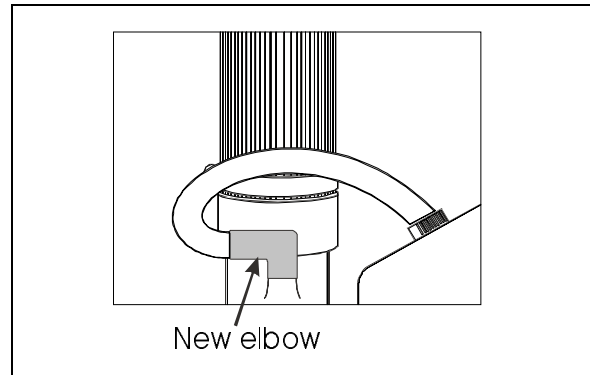

FIGURE 2B
3. Remove the fitting from the ventilation pipe and replace fitting with elbow #501961 (figure 2b).